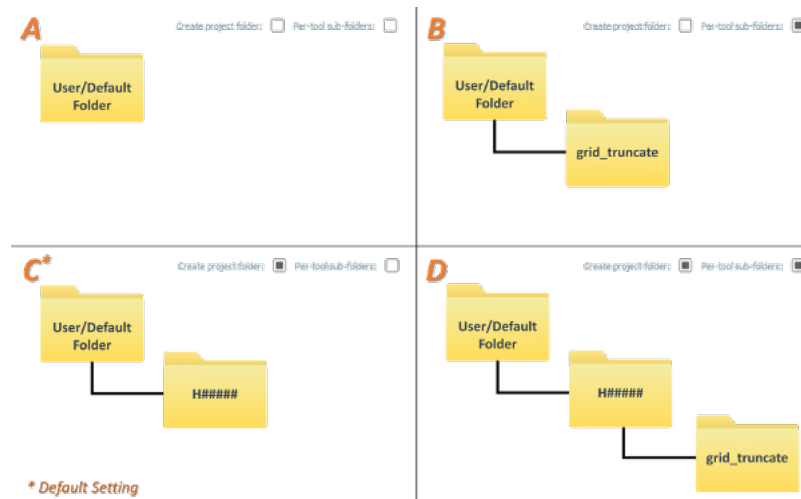

Fig. 2.34: The resulting folder structure based on the four available combinations of output flags.
- No flags set (see Fig. 2.34, pane A). The outputs are stored directly under the default or user-defined location.
- Only the **Per-tool sub-folders** flag set (see Fig. 2.34, pane B). The outputs are stored in a tool-specific sub-folder (in the default or user defined-location).
- Only the **Create project folder** flag set (see Fig. 2.34, pane C). The outputs are stored in a survey folder (in the default or user defined-location). *This is the default setting.*
- Both flags set (see Fig. 2.34, pane D). The outputs are stored in tool-specific sub-folders in a survey folder (in the default or user defined-location).